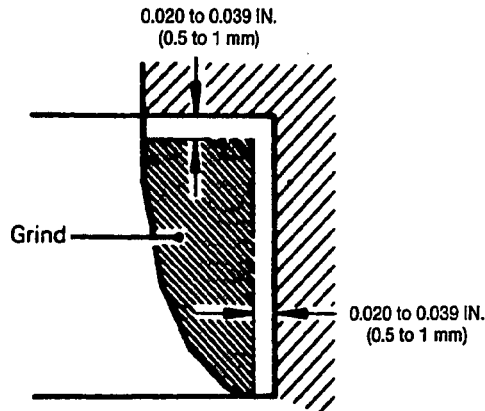

FIGURE 9-22. REMOVING THE VALVE SEAT
1. Any valve seat that has been worn away over the service limit should be removed after thinning down the seat by a cutter as shown in Figure 9-22.